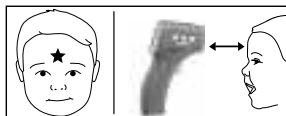

Figure 2-Measuring position and distance
- The thermometer should align with the middle of the forehead to measure body temperature (between and directly above the eyebrows) at a vertical distance. Press the On (Trigger) button and the temperature will display immediately, see figure 2.
Incorrect test position.	See figure 2 measuring